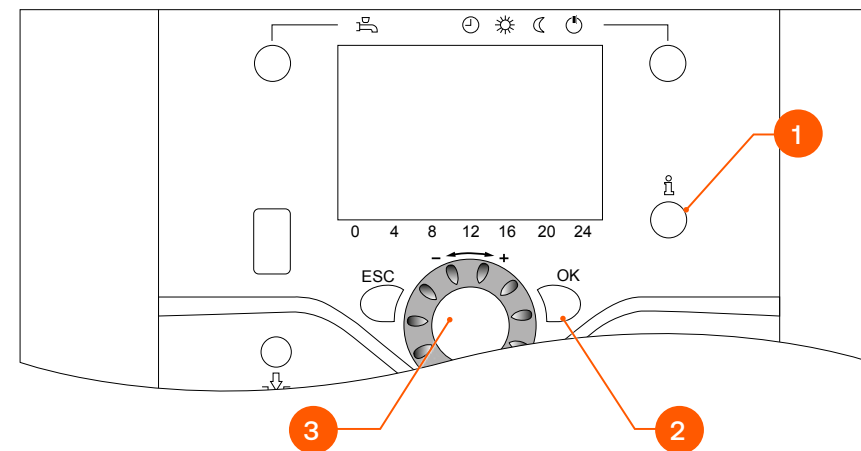

Fig. 3. Using the controls
Access Levels (See Fig. 3)
1. Access the **Commissioning** or **Engineer** level (see “**Access Levels (See Fig. 3)**” on page 6).
2. Depress the **Heating mode selection** button (4) for more than 3 seconds to access the **Controller stop function**.
3. Press the **Information** button (1) to display the modulation indicator (in %).
4. Depress the **OK** button (2), the indicator starts flashing.
5. Rotate the selection knob (3) to the right to increase to 100% (high fire) or to the left, to decrease to 0% (low fire). Press the **OK** button (2) to confirm.
6. Depress the **ESC** button (5) to exit each function and menu and get back to the home screen.
2. Depress the **OK** button (2) to access the menus.
3. Rotate the selection knob (3) to reach the **Diagnostics heat operation** function. Press the **OK** button (2) to confirm.
4. Rotate the selection knob (3) to reach program line:
5. Depress the **ESC** button (5) to exit each function and menu and get back to the home screen.
1. Access the **Commissioning** or **Engineer** level (see **“Access Levels (See Fig. 3)” on page 6**).
3. Rotate the selection knob (3) to reach the **Fault** function. Press the **OK** button (2) to confirm.
4. Rotate the selection knob (4) to reach program line:
1. Access the **Commissioning** or **Engineer** level (see **“Access Levels (See Fig. 3)”** on page 6).
2. Depress the **OK** button (1) to access the menus.
3. Rotate the selection knob (2) to reach the **Configuration** menu. Press the **OK** button (1) to confirm.
4. Rotate the selection knob (2) to reach program line:
5. Depress the **OK** button (1). “No” starts flashing. Rotate the selection knob to change “No” into “Yes” and depress the **OK** button (1) to confirm.